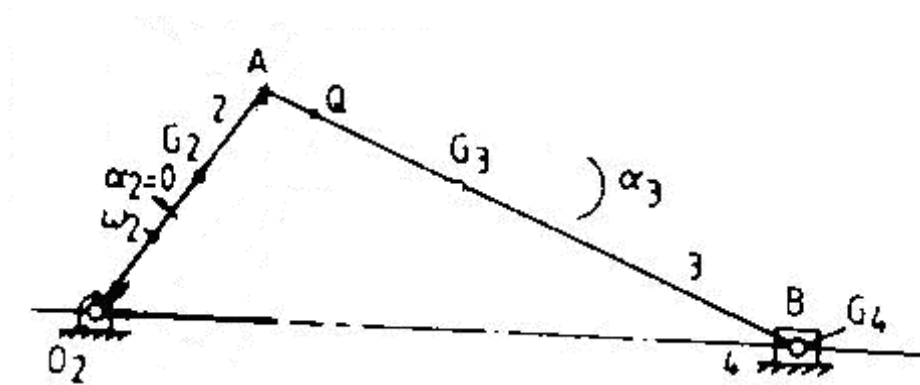

Figure 7:
5. Make a complete inertia force analysis for the reciprocating mechanism shown in figure 7 below, the following data is given.